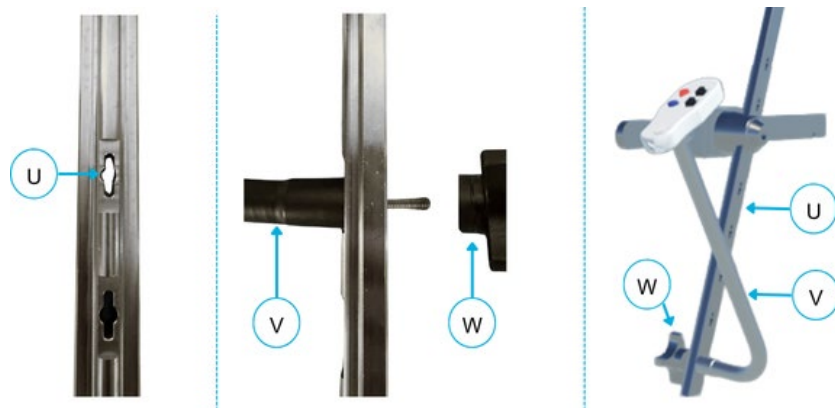

Figure 10-21: Controller Connection to Stabilizer Mount
22. Align the notches on the end of the Controller Arm (**V**) with the 'keyhole' slots (**U**) on the side of the Vertical (long) Stabilizer Mount (**Figure 10-21**).